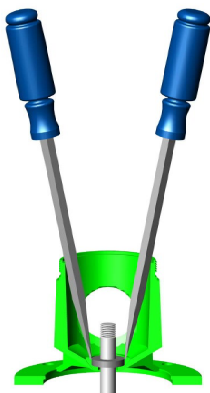

Figure 15 - Remove Mechanical Seal
1. Remove the four (4) pump through bolts that connect the mounting ring to the pump body. Remove the pump body, taking care not to damage the gasket or o-ring.
- Remove the mechanical seal assembly. The rotary portion of the seal assembly (carbon ring, Buna-N gasket and spring) will easily slide off the end of the shaft. The ceramic portion can be pried out of the rubber seating using two (2) screwdrivers (see Figure 15).